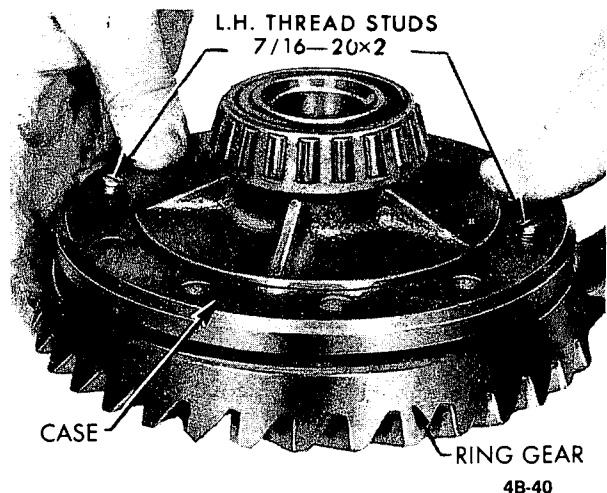

Figure 4B-40 - Installing Ring Gear On Differential Case
5. After making certain that mating surfaces of case and ring gear are clean and free of burrs, thread two 7/16x20x2 (LH) studs into opposite sides of ring gear, then install ring gear on case. See Figure 4B-40. Install ring gear attaching bolts just snug. Torque bolts alternately in progressive stages to 85 lb. ft.
6. If differential side bearings were removed, install new bearings using Installer J-25299 on 7 1/2 inch ring gear axles, Installer J-22761 on 8 1/2 inch and 8 7/8 inch ring gear axles or Installer J-8606 on 9 3/8 inch ring gear axles with Driver Handle J-8092. See Figure 4B-41.